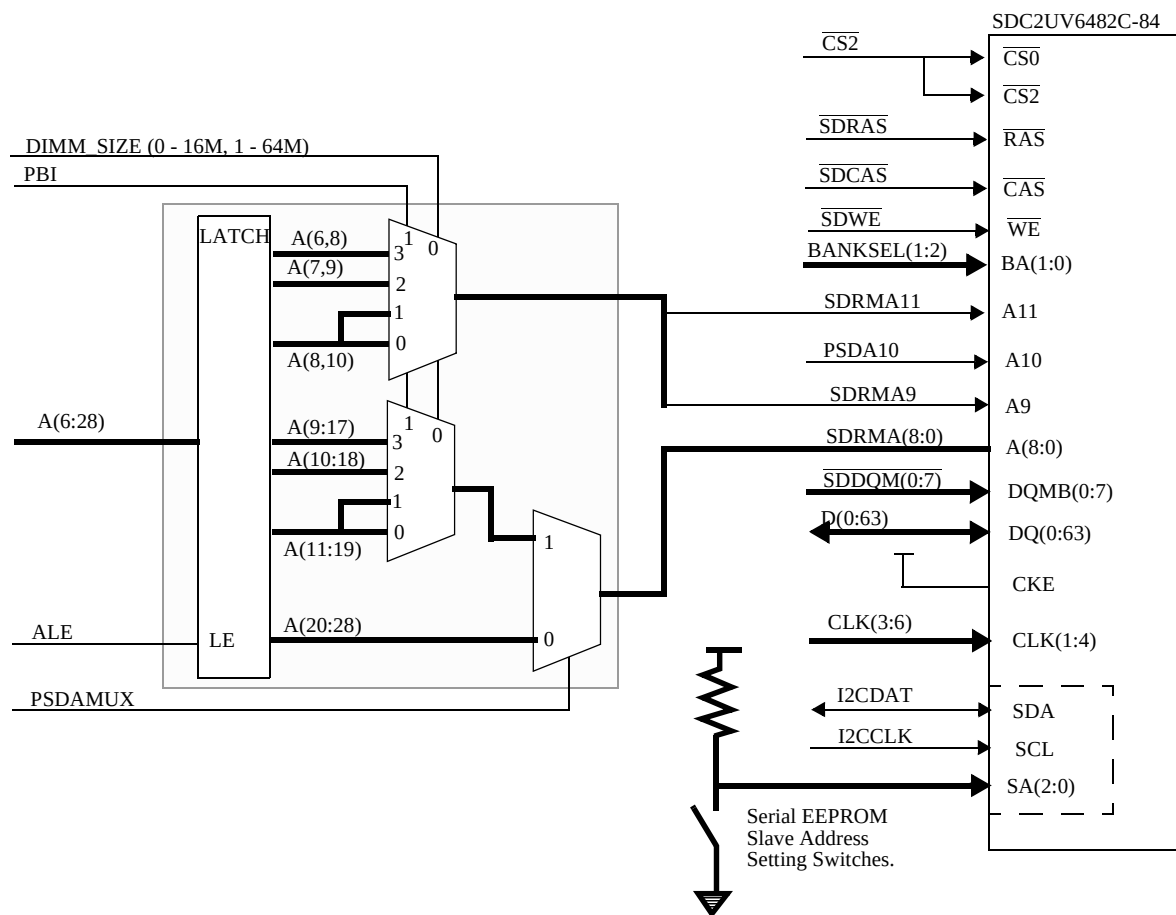

Figure 4-6. SDRAM DIMM - 60x Bus Connection Scheme with L2 Cache
The SDRAM connection scheme when L2 cache is installed is shown in Figure 4-6.
1. Optional Latches - Multiplexers are added over selected address lines. See Figure 4-6. These Latches - Multiplexers are normally by-passed by 0 Ω resistors that are not assembled in L2cache boards.
3. To support SDRAM PBI (Page Based Interleaving), the relative location of the Row-Address field, is shifted up the address lines, depended on the number of internal banks within a SDRAM DIMM. This since the Bank Select line(s) are inserted between the Column (LSB) and Row (MSB) address lines. As can be seen from Figure 4-6., PBI and DIMM_SIZE signals, driven via BCSR0, select the correct address line group for a specific DIMM size, with PBI set.